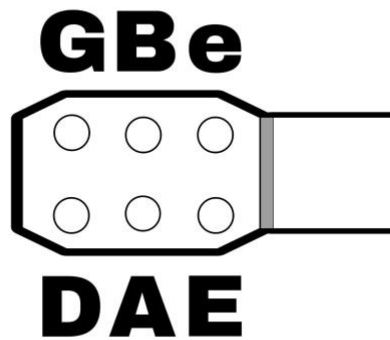

Figure 5: The order of thickness on the machine heads.
5. Remove the strings from their package and identify their order from the package's label or the thickness of the string (see Figure 5 for machine head order).